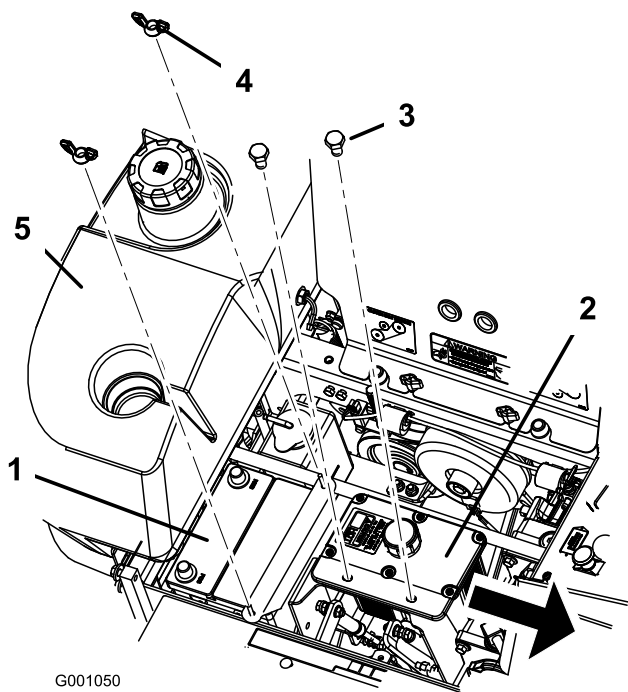

Figure 46
6. Remove both wing nuts (1/4 inch) securing the battery clamp (Figure 46).
7. Remove the two bolts holding the hydraulic tank in place (Figure 46).
1. Position battery in the tray with the terminal posts opposite from the hydraulic tank (Figure 46).
6. Secure battery with J-bolts, hold down clamp and 2 washers (1/4 inch), and 2 wing nuts (1/4 inch) (Figure 46).